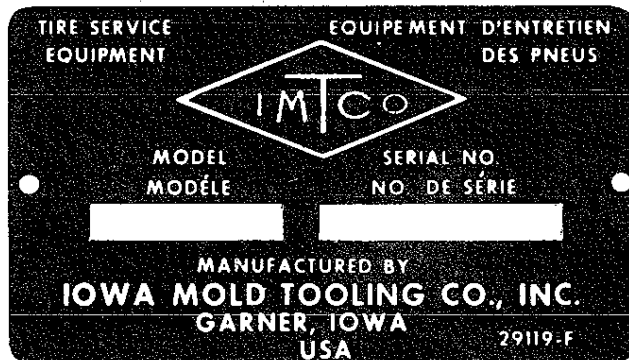

Figure B-1. Identification Placard
Every IMT crane has an identification placard (Figure B-1) attached to its mast assembly. When ordering parts, communicating warranty information or referring to the unit in correspondence always include the assigned serial and model numbers. All inquiries should be addressed to Iowa Mold Tooling Co., Inc.; Garner, Iowa; 50438 or telephone (515) 923-3711.